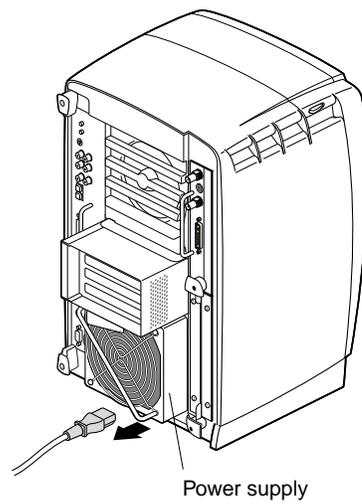

Figure 3-2 Unplugging the Power Cable
5. Unplug the power cable from your workstation (power supply), as shown in Figure 3-2.